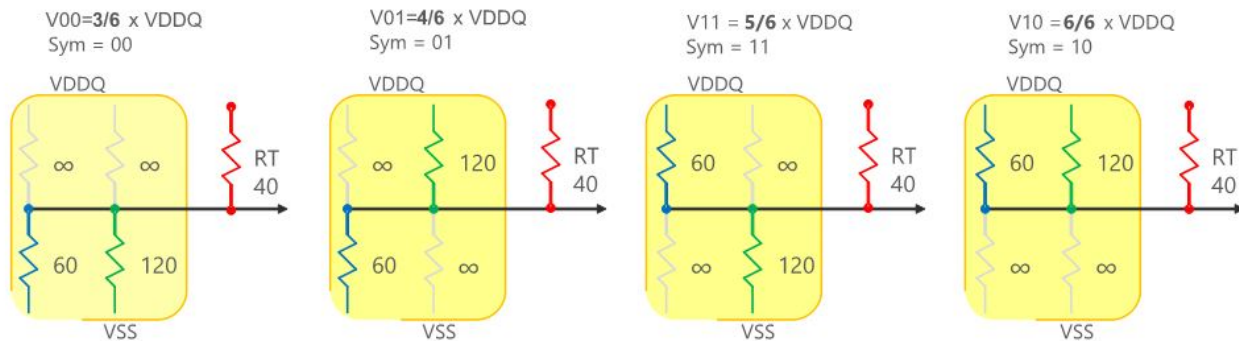

Figure 5: PAM4 Impedance Scheme
For generations, DRAMs have used multi-leg architectures to support different driver strengths depending on how many legs are enabled in parallel. The same concept can be used to form several intermediate voltage levels through the pull-up (PU) and pull-down (PD) voltage divider (Figure 5 shows impedances).